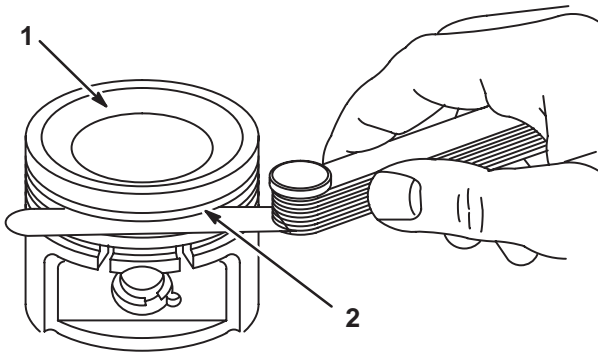

Fig. 120 – Checking Ring Grooves
2. Place a NEW ring in groove, Fig. 120 and measure space between ring and ring land, Table No. 1, page 52.